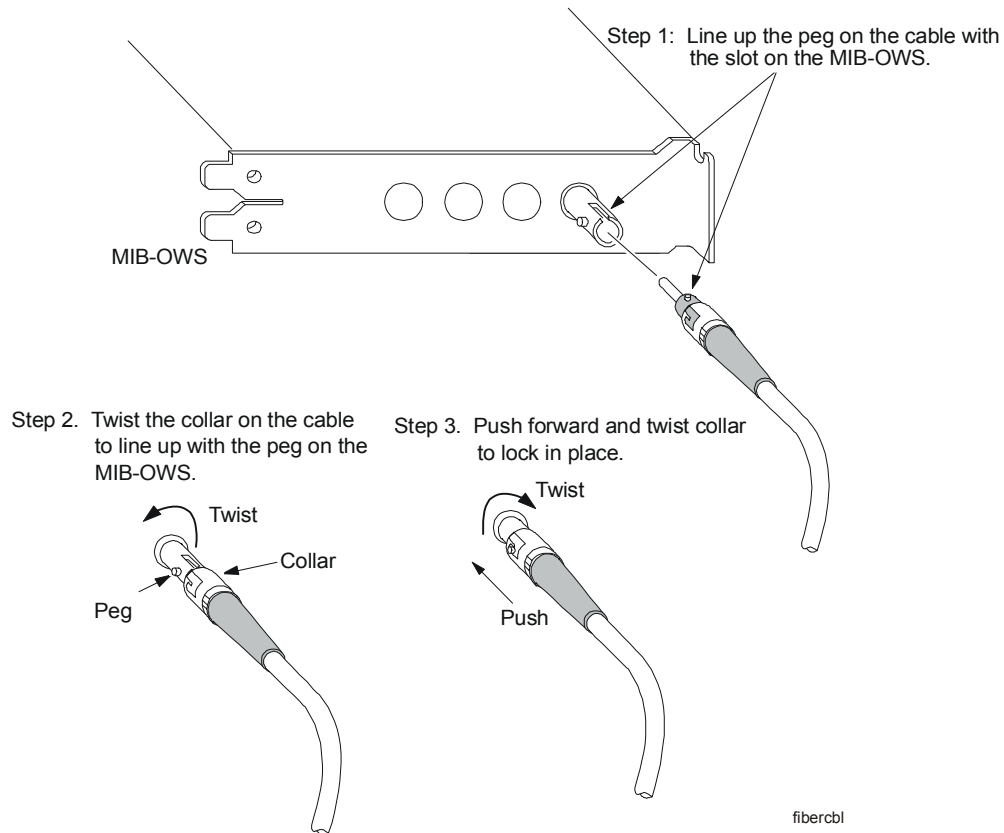

Figure 7: Connecting the Fiber-Optic Cable to the Fire OWS
To install fiber-optic cable into the MIB-OWS, use a fiber-optic cable that is terminated with an ST connector. The Straight Tip (ST) connector has a bayonet locking system that you can connect using the steps below (Figure 7):